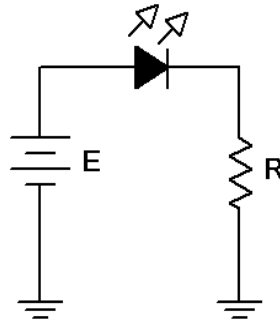

Figure 1
1. The forward potential of an LED depends on its design and the current flowing through it. The other two circuits in this exercise are designed to produce LED currents of approximately 10 mA so a determination of the forward potential of this particular diode at 10 mA is desired. Assemble the circuit of Figure 1 using $R = 470 \Omega$, and $E = 5$ volts. Insert an ammeter in line with the LED. Increase E until 10 mA is reached (the LED should be reasonably bright). Record the resulting LED voltage in Table 1.